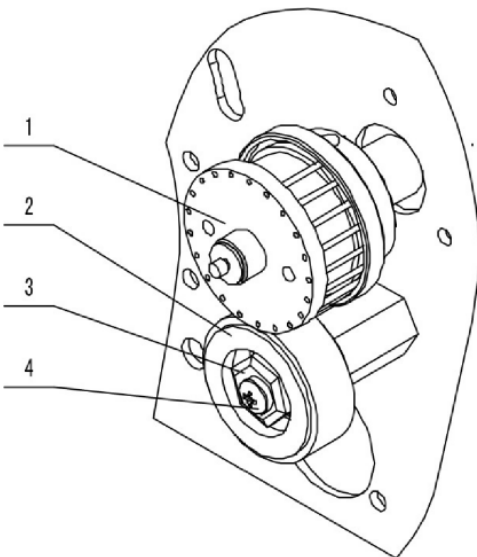

Figure 22. (1) Printing Wheel, (2) Silicone Wheel, (3) Eccentric Sleeve, (4) Screw
7. **Make Adjustments Between Printing Wheel and Silicone Wheel.** The typesets/characters on the printwheel should only touch the silicone wheel during the printing process. The characters should not touch the silicone wheel at any other time. If the band sealer is used to seal relatively thicker materials, the screw (Figure 22, Item #4) should be loosened. Rotate the eccentric sleeve (Figure 22, Item #3) to ensure the characters/typesets slightly touch the silicone wheel's surface. Refasten the screw after making adjustments. If printing on thicker materials, please make the appropriate adjustments